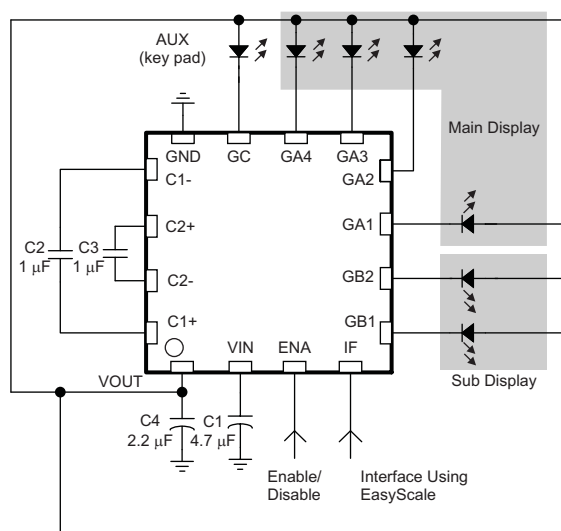

Figure 17. Application Circuit—Clam Shell Mobile Phone Design
- **Clam Shell** (Figure 17)—application circuit for driving four LEDs for main display and two LEDs for the subdisplay.